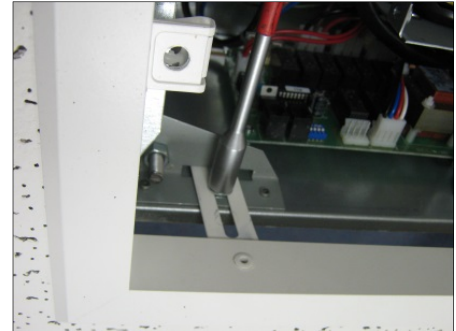

Fig 8
**Step 3** Using the M6 bolts removed in Step 1, secure grille by fixing each bolt through the slotted brackets as shown in Fig 8.